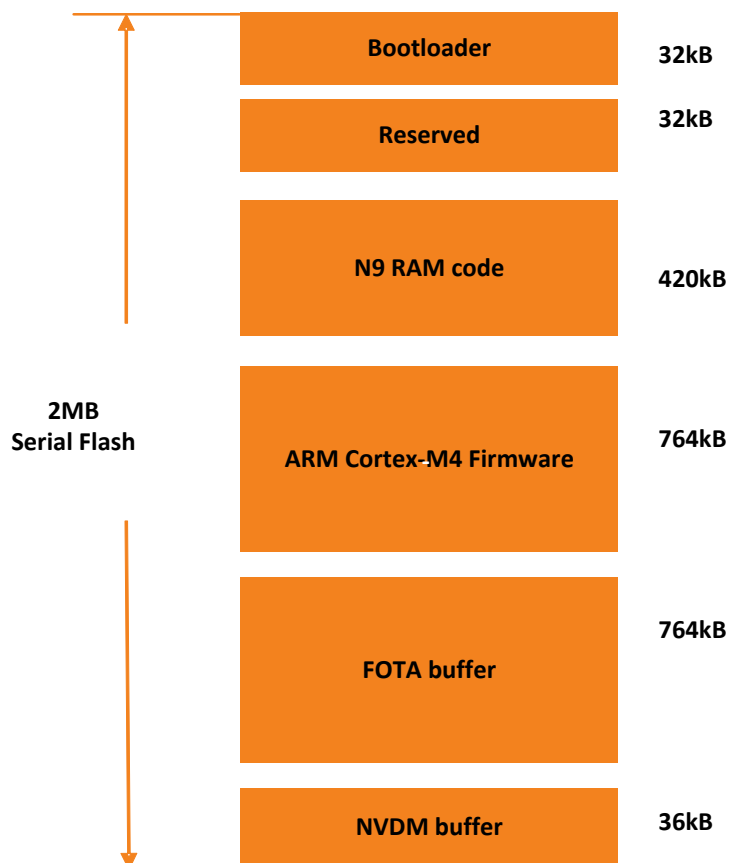

Figure 1. The load view of the 2MB flash memory layout
MT7687F has 2MB internal serial flash memory. The load view on the flash memory of the HDK is shown in Figure 1.
- Non-Volatile Data Management (NVDM) buffer. There are two blocks reserved for the NVDM buffer management. The first NVDM buffer after the Bootloader (see Figure 1) is not configurable, but the second NVDM buffer is configurable, see section 2.4, “Memory layout adjustment with a linker script” for more details.
NVDM buffer	The first NVDM buffer located after the Bootloader is not configurable, no need to modify. The second NVDM buffer starting address and size are configurable (see Figure 1).